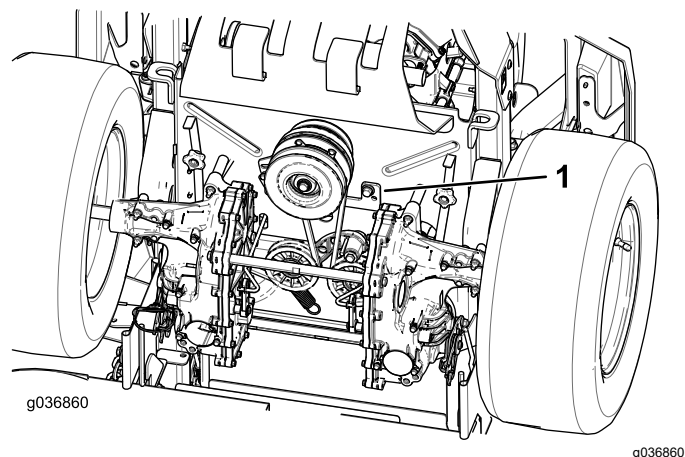

**Figure 63**
12. Install the belt covers and the bolts attached to them (Figure 63).